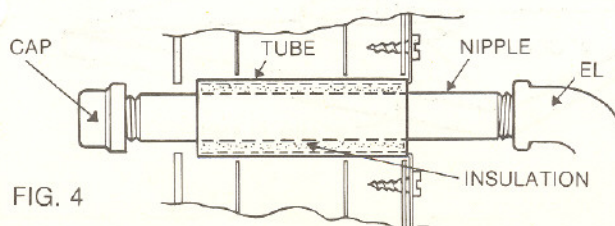

FIG. 4
- When gas line has been completed to a point just outside fireplace, install a nipple having length suitable to device. Add cap unless device to be installed now. Re-pack insulation in Tube Shield as shown in Fig. 4.